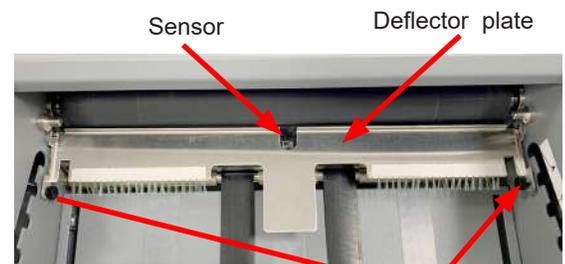

Fig. 65a
5. Remove the deflector plate. To remove, loosen the two thumb screws, one on each side (Fig. 65a).